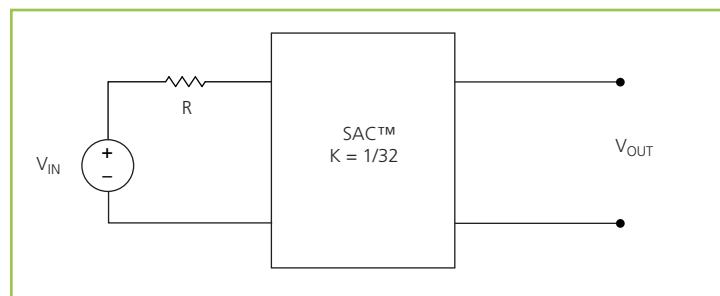

Figure 15 — K = 1/32 Sine Amplitude Converter™ with series input resistor
The use of DC voltage transformation provides additional interesting attributes. Assuming that ROUT = 0 Ω and IQ = 0 A, Eq. (3) now becomes Eq. (1) and is essentially load independent, resistor R is now placed in series with VIN as shown in Figure 15.
Assuming that  $R = 1 \Omega$ , the effective R as seen from the secondary side is 0.98 mΩ, with  $K = 1/32$  as shown in Figure 15.